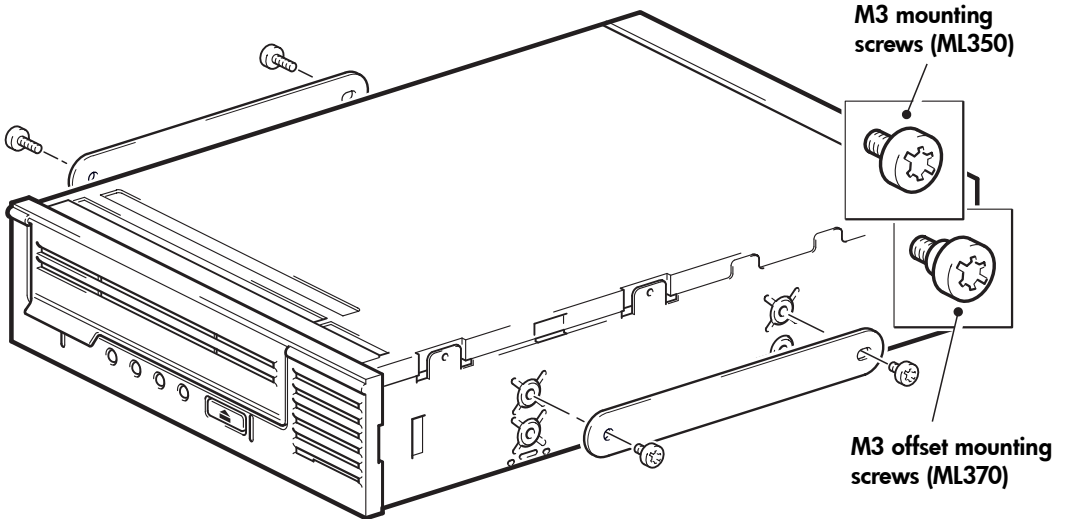

Figure 5b: attaching mounting screws in a typical HP ProLiant 350 or 370 server
- 1 Use a T8 Torx screwdriver to attach the appropriate screws. You may need to purchase the M3 screws separately. Position the screws, as shown in Figure 5b.